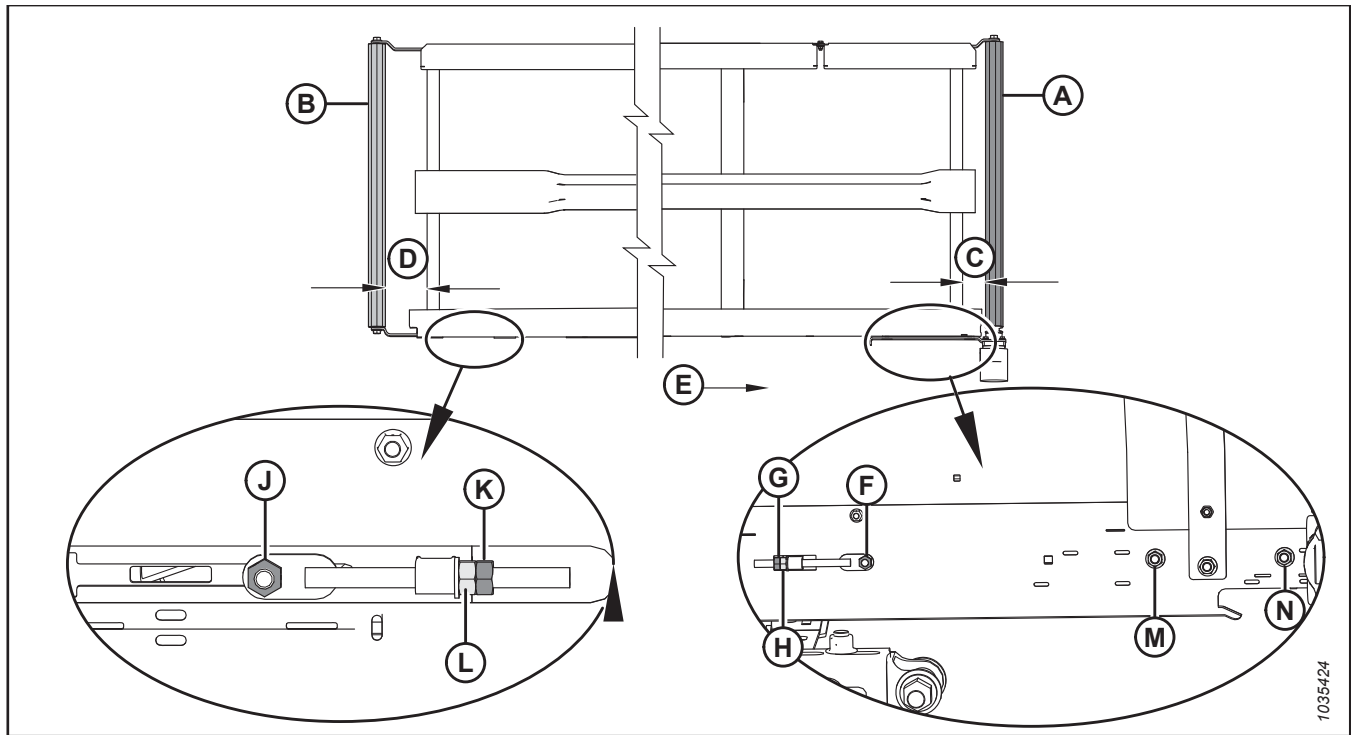

Figure 4.248: Draper Tracking Adjustments – Left Draper
2. Adjust drive roller (A) to change **C** (refer to Table 4.2, page 391 and Figure 4.248, page 391) as follows:
- a. Loosen nuts (F), (M), and (N), and jam nut (G).
- b. Turn adjuster nut (H).
- c. Tighten nuts (F), (M), and (N), and jam nut (G).
3. Adjust idler roller (B) to change **D** (refer to Table 4.2, page 391 and Figure 4.248, page 391) as follows:
- a. Loosen nut (J) and jam nut (K).
- b. Turn adjuster nut (L).